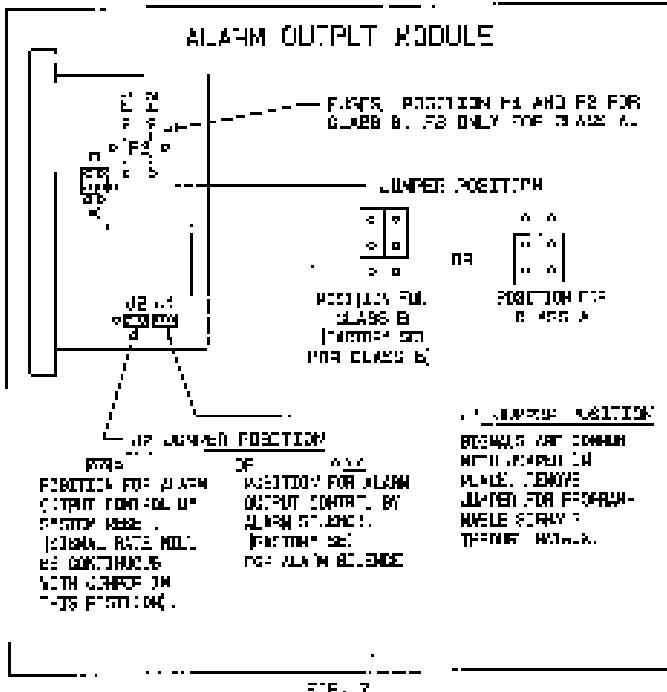

FIG. 7A
Install wiring as shown in Figure 7A. For Class B, install the SK9 ohm 1/2 watt, end of line resistor (supplied in parts bag) beyond the last signalling device on the circuit as shown. For Class A, wires from the last signalling device on the circuit must be returned to the control panel.
Test the circuit for opens, grounds and shorts using an ohmmeter as shown in Figure 7A.
- With the positive (+) of the ohmmeter connected to wire (A) and the negative (-) of the ohmmeter connected to wire (B) the measurement should be approximately zero ohms.
3. Measure the resistance between ground and (A), and ground and (B). An infinite resistance should be measured in each case.
4. When tests are complete, connect the wiring to terminals as shown in Figure 7A. Observe polarity indicated.